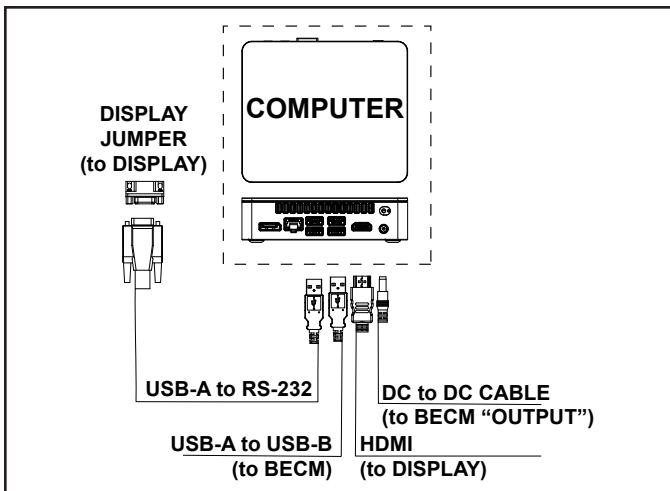

Figure 3.4 Computer Wiring
2. Disconnect the two USB, one HDMI and one DC cable from the computer. See Figure 3.4.
1. The Basic Electronic Control Module (BECM) may be replaced by disconnecting the cables attached to it: the DC "BECM Output" Plug; the LED Power supply "Power Supply" plug; the USB-B cable; the Buttons Wire Harness. See Figure 3.4.